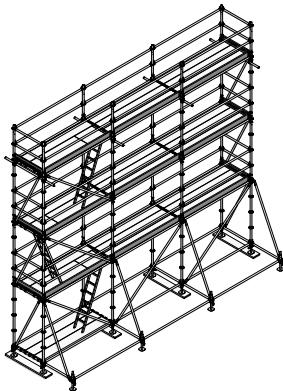
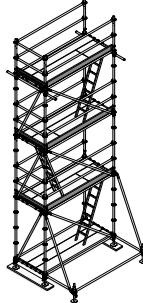
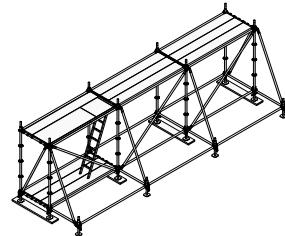

Fig. 26.1
Fig. 26.2
Fig. 26.3
- Complete scaffolding as shown (Fig. 26.1)
- First field (Fig. 26.2)
- Lower storey (Fig. 26.3)
| Ref. no. | Description | Component weight (kg) | Complete scaffolding (Fig. 26.1) | Only the first field (Fig. 26.2) | Only the lower storey (Fig. 26.3) |